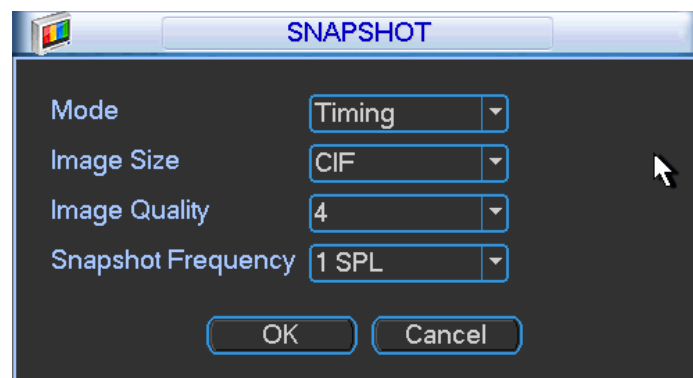

Figure 3-26
- Snapshot: Click snapshot button, you can set snapshot mode, picture size, quality and frequency. See Figure 3-26. **Before the snapshot operation, please make sure the front-end device supports current operation.**